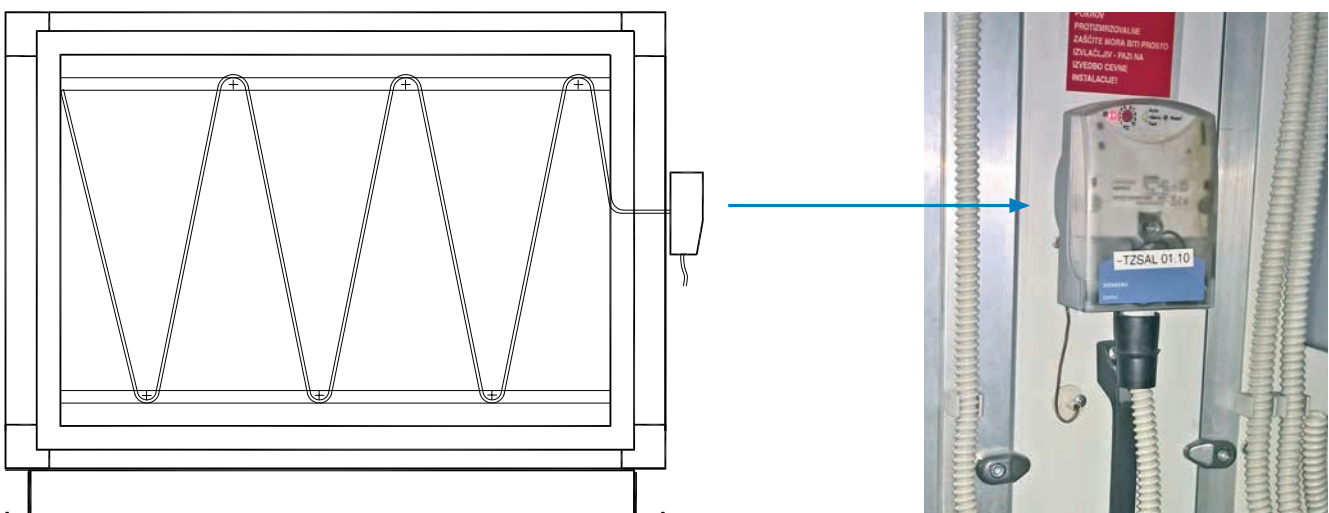

Figure 18
- The protection of the heater against freezing consists of an air flow thermostat with a capillary installed in a separate section on the “warm” side of heater. The capillary and thermostat are fixed onto a removable frame (Figure 18).